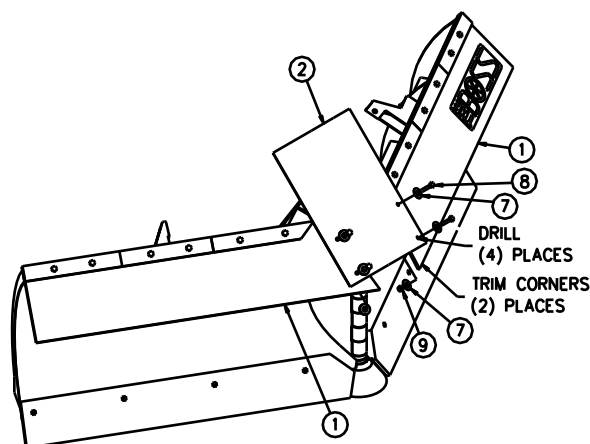

Figure 6. Center Flap Installation G10022
Note: If installing this Snow Deflector on a Plow that does not have pre-punched holes in the Blade Skin it is required that the Blade Skin be drilled. Use Straps (3 & 4) as a reference when drilling the holes. Refer to Figure 6 for the correct Strap (3 & 4) orientation. Space between Straps (3 & 4) will differ depending on type of Plow.
4. Place Straps (3) and Straps w/45° Angle (4) on top of Belting (1). The Straps w/45° Angle (4) must be placed closest to the center of the Plow as shown in Figure 6.
Note: The Plow must be in the V-Position, as shown in Figure 6, for the installation of Center Belting (2).
6. Align and clamp Center Belting (2) as follows:
- Center the Center Belting (2) to allow an equal amount of overlap on each half of Belting (1).
- Position Center Belting (2) so that the 16" width is horizontal and the 26-1/2" length is vertical. See Figure 6.
- Position the front corners of Center Belting (2) up approximately 1-1/2" from the front edge of Belting (1).
7. With Center Belting (2) clamped in place, drill two 3/8" diameter holes through each side of Center Belting (2) up approximately 1-1/2" from the front edge of Belting (1).
8. Attach Center Belting (2) to Belting (1) using four 1/4" Hex Head Bolts (6), eight 5/16" Fender Washers (5), and four 1/4" Nylon Lock Nuts (7).
9. Trim the corners of Belting (1) to be flush with the bottom of Center Belting (2). See Figure 6.